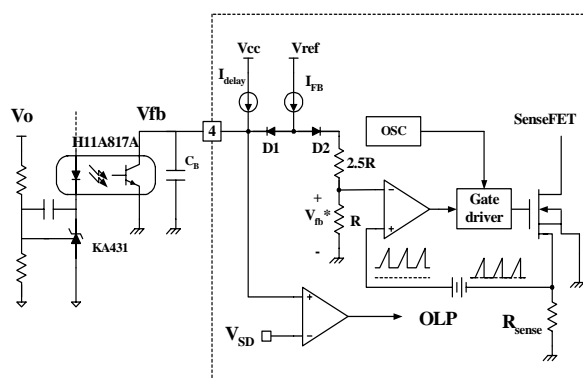

Figure 5. Pulse width modulation (PWM) circuit
2. Feedback Control : FSDM07652R employs current mode control, as shown in figure 5. An opto-coupler (such as the H11A817A) and shunt regulator (such as the KA431) are typically used to implement the feedback network. Comparing the feedback voltage with the voltage across the R_{sense} resistor plus an offset voltage makes it possible to control the switching duty cycle. When the reference pin voltage of the KA431 exceeds the internal reference voltage of 2.5V, the H11A817A LED current increases, thus pulling down the feedback voltage and reducing the duty cycle. This event typically happens when the input voltage is increased or the output load is decreased.
2.1 Pulse-by-pulse current limit: Because current mode control is employed, the peak current through the Sense FET is limited by the inverting input of PWM comparator (Vfb*) as shown in figure 5. Assuming that the 0.9mA current source flows only through the internal resistor ($2.5R + R = 2.8 \text{ k}\Omega$), the cathode voltage of diode D2 is about 2.5V. Since D1 is blocked when the feedback voltage (Vfb) exceeds 2.5V, the maximum voltage of the cathode of D2 is clamped at this voltage, thus clamping Vfb*. Therefore, the peak value of the current through the Sense FET is limited.